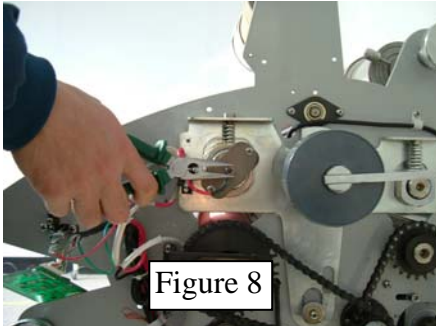

Figure 8
- Take out the heater brackets on each side by loosening the nuts and screws (Figure 8, 9, & 10).